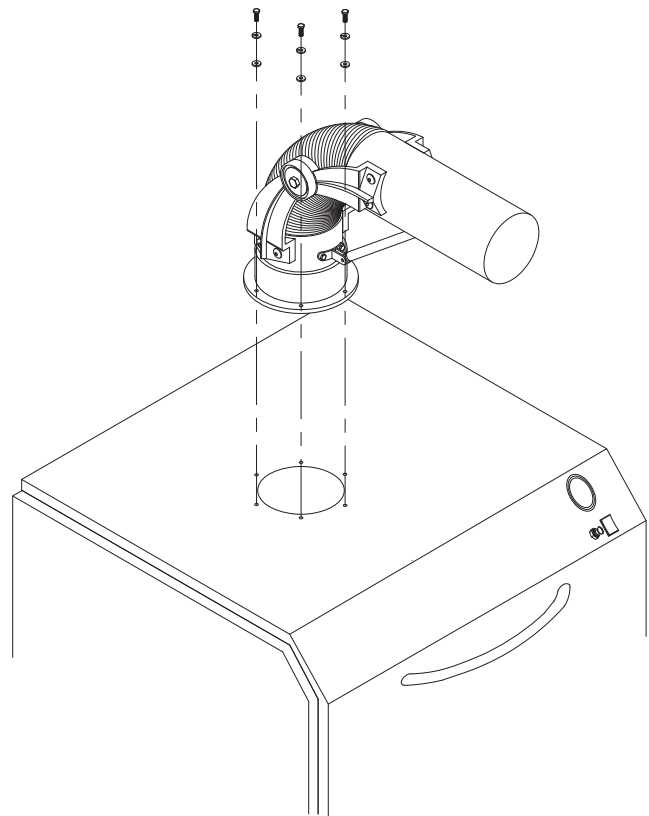

Fig. 1
4. Install the arm assembly onto the base unit (Fig. 1).